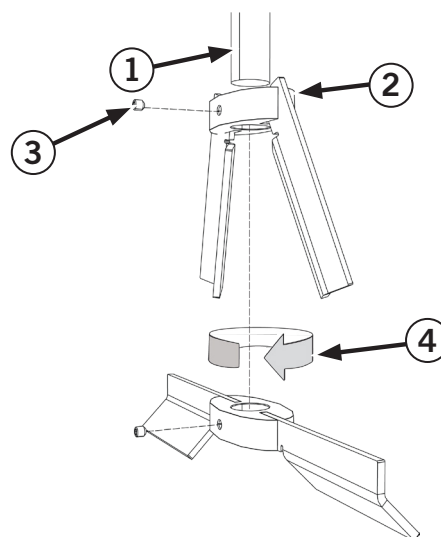

Figure 12. Folding Impeller
1. Install the FLP (2) into the shaft (1) noting the specific orientation, see rotation (4) in Figure 12. Folding Impeller.
2. Secure with a set screw (3) and tighten to specification.